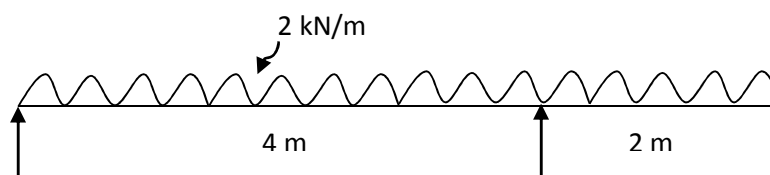

Fig.3
4. Draw the shear force and bending moment diagram for the beam and locate the point of contraflexure if any for the beam shown in Fig.3.